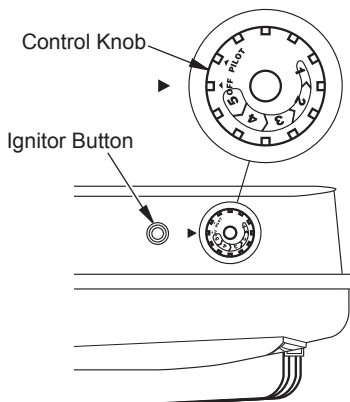

Figure 19 - Control Knob in the OFF Position
5. Wait five (5) minutes to clear out any air. Then smell for gas, including near the floor. If you smell gas, STOP! Follow "B" in the safety information above. If you do not smell gas, go to the next step.
6. Turn control knob counterclockwise  to the PILOT position. Press in control knob for five (5) seconds (see Figure 19).